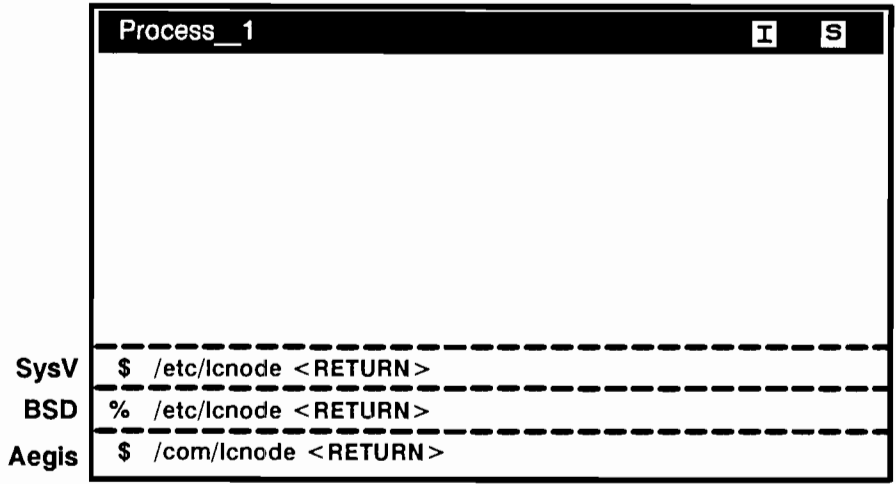

Figure 9-4. Verifying 802.3 Network Functionality
5. Verify that the 802.3 network functions properly by typing the **lcnode** command as shown in Figure 9-4.